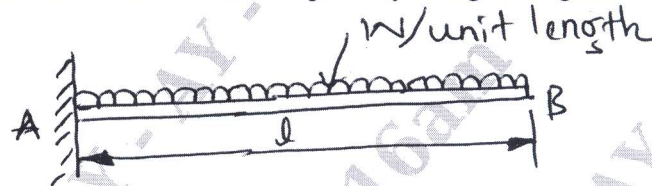

Fig.Q.9(c)
c. A cantilever beam AB supports a uniformly distributed load W per unit length as shown in Fig.Q.9(c). Determine the deflection and slope at by using Cantiglian's theorem. (08 Marks)